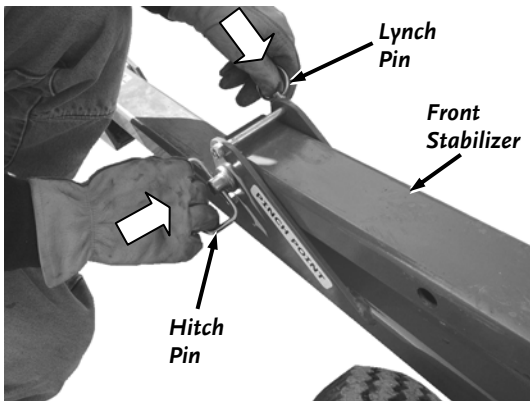

Figure 16
14. Line up the holes in the Front Stabilizer and insert the Hitch Pin. Secure the Hitch Pin with the Lynch Pin (*Figure 16*).